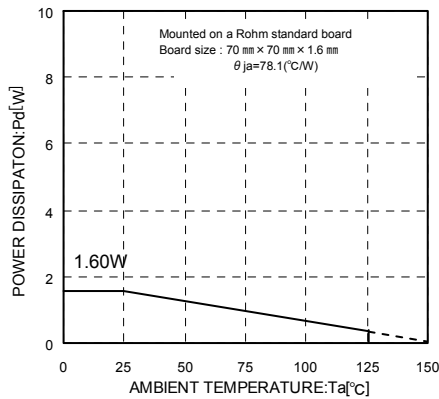
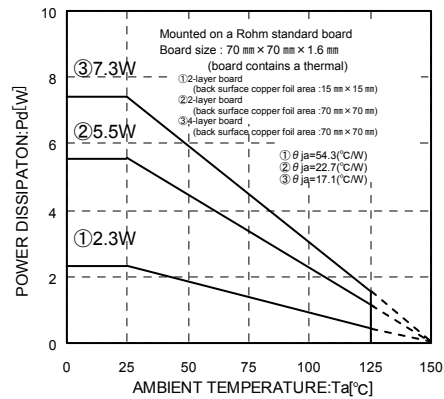

Fig.14
Fig.15
Refer to Fig.14 and Fig.15 thermal dissipation characteristics for usage above $T_a=25^{\circ}\text{C}$. The IC's characteristics are affected heavily by the temperature, and if it exceeds its max junction temperature ($T_{j\text{max}}$), the chip may degrade or destruct. Thermal design is critical in terms of avoiding Instantaneous destruction and reliability in long term usage. The IC needs to be operated below its max junction temperature ($T_{j\text{max}}$) to avoid thermal destruction. Refer to Fig.14 and Fig.15 for HRP7 package thermal dissipation characteristics. Operate the IC within power dissipation (P_d) when using this IC. Power consumption $P_c(\text{W})$ calculation will be as below (for Fig.15③)
$\left(\begin{array}{l} \text{Fig.15③ : } \theta_{ja}=17.1^{\circ}\text{C/W} \rightarrow -58.4\text{mW}/^{\circ}\text{C} \\ 25^{\circ}\text{C}=7.3\text{W} \rightarrow 125^{\circ}\text{C}=1.46\text{W} \end{array} \right)$